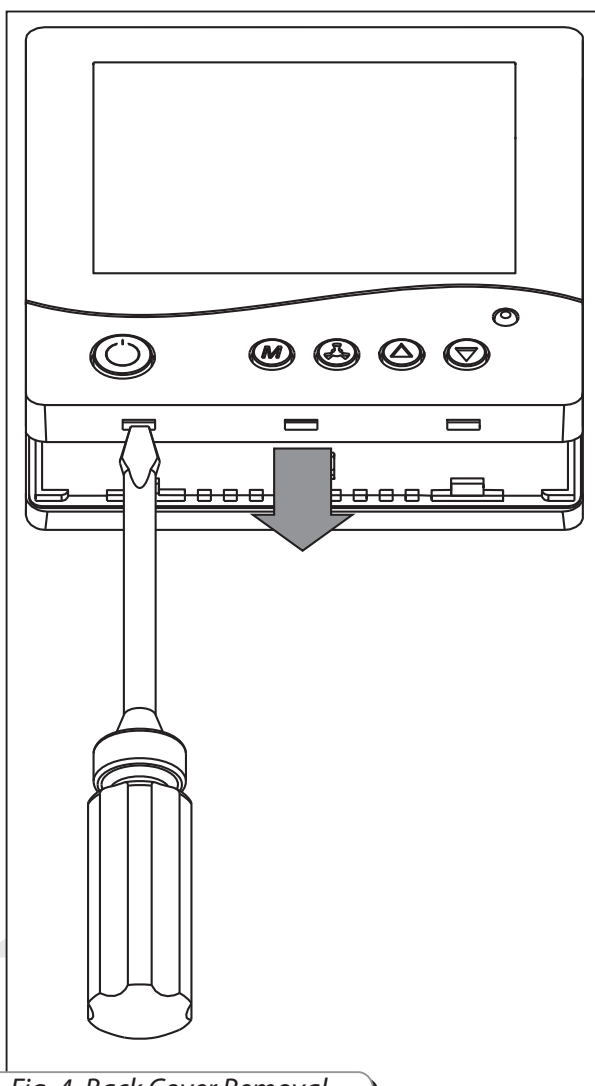

Fig. 4. Back Cover Removal
- Undo the clips through the access holes in the bottom of the wall-mounted control panel (Fig. 4).